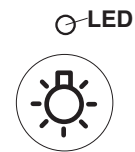

Fig.3-7 Light Pack Switch
④ Light Pack Switch (Optional)(Fig.3-7) **A E**